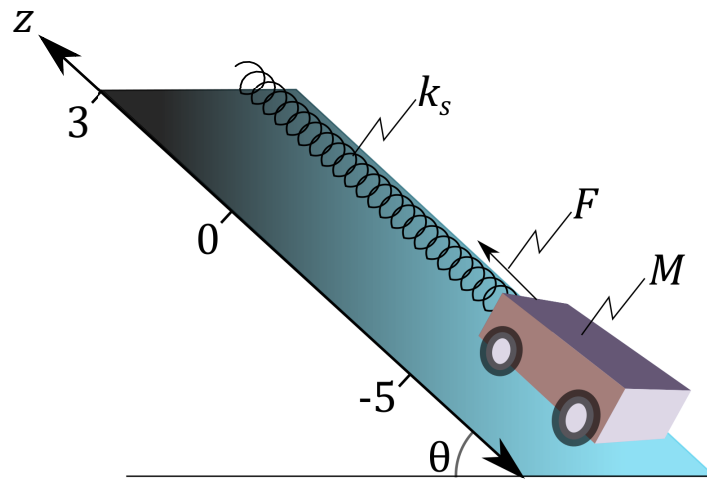

Figure 1: Mechanical System
A small pick-and-place robot of mass  $M$  affected by the gravitational acceleration  $g$  moves on an inclined plane along an axis  $z$  and is attached to a wall-mounted spring with constant  $k_s$  as illustrated in Figure 1. The inclination of the plane is  $\theta$  with respect to the horizontal plane. The robot picks objects from the position  $z = 0$  (as indicated in Figure 1) and the velocity of the robot is  $\dot{z}$ . The spring is used to prevent the robot from accidental free fall in the case of power failure and the natural length of the spring (the length for which the force generated by the spring is equal to zero) is  $8m$ . The effects of friction from the inclined plane are very small and are therefore neglected.
2. Use the coordinates and positions indicated in Figure 1 to derive the differential equations that describe the motion of the system. Declare each step in your calculation. (6 pts.)
You will now design two state feedback controllers for this system: Design (I) and Design (II). Assume that the robot is initially at rest ( $\dot{z} = 0$ ) and is at position  $z = -5m$  as shown in Figure 1.
6. Design (I): Design a controller for the system such that eigenvalues of the controlled system (closed-loop poles) are  $\lambda_1 = -0.8$  and  $\lambda_2 = -1$ . The controller shall move the robot to the position  $z = 0$  on the inclined plane and the robot shall remain there afterwards. Determine the gain matrix  $K$  and show all the steps of your calculations. **(6 pts.)**
9. Design (II): Design a controller for the system such that the problem that resulted from Design(I) is mitigated. Specify the eigenvalues of the controlled system (closed-loop poles). The controller shall move the robot to the position  $z = 0$  on the inclined plane and the robot shall remain there afterwards. Determine the gain matrix  $K$  and show all the steps of your calculations. **(5 pts.)**